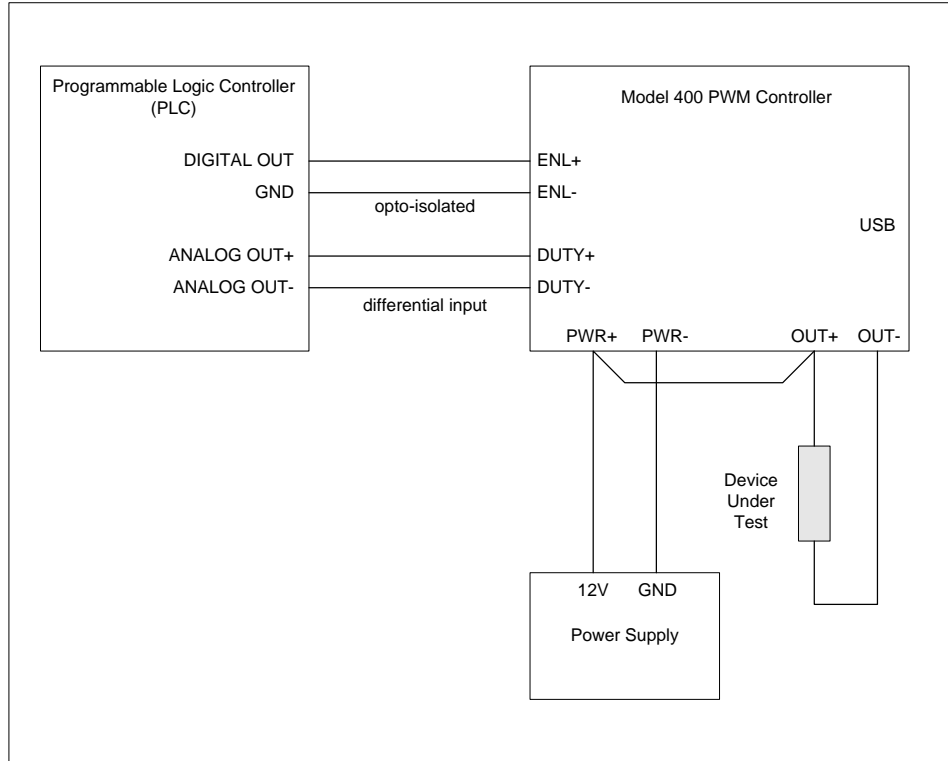
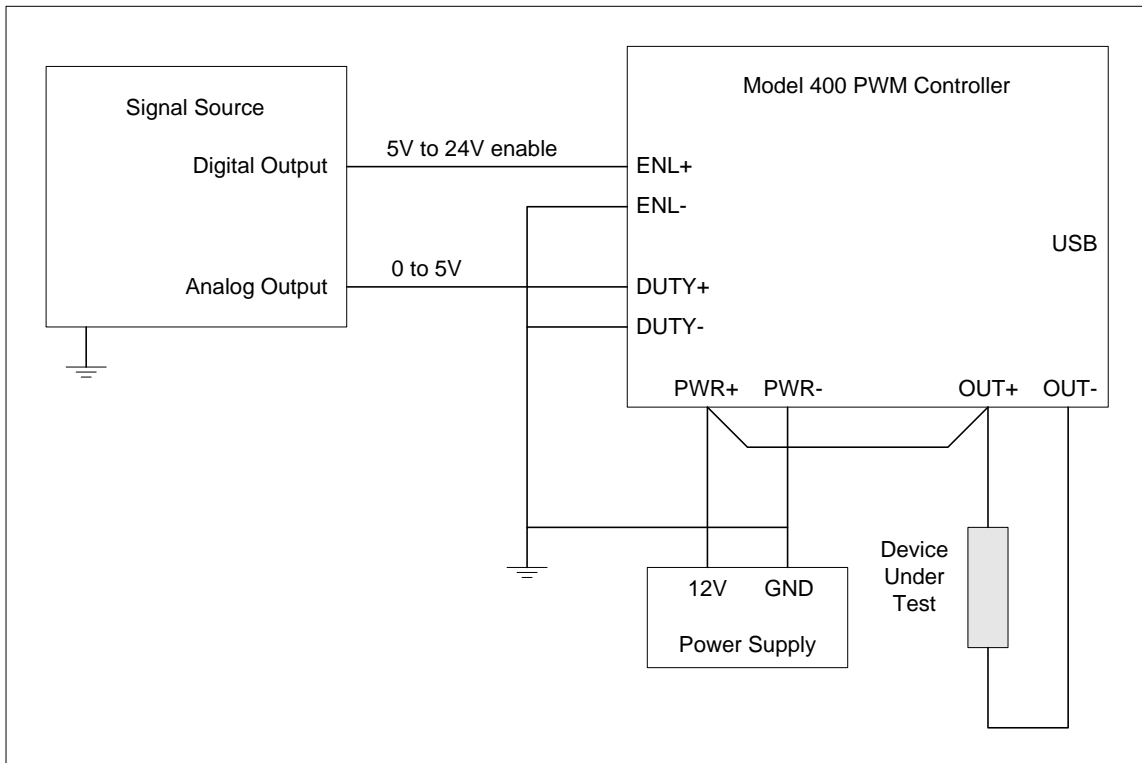

Figure 3.1-2 Model 400 PWM Controller – typical installation.
Figure 3.2-4 PWM Controller - Common Ground Connection.
(1) PWR-, DUTY-, and ENL- are electrically isolated (not internally connected). The PWMC-400 may be connected in a common ground configuration, however, the application must connect these pins together to utilize the same reference (ground). See figure 3.1-2 for a typical installation, see figure 3.2-4 for an example of an installation using a common ground.
In the common ground configuration of figure 3.2-4, connections to the DUTY- (IN2-), ENL- (IN1-) and PWR- pins on the PWM Controller must be physically made to the same reference ground in the application for proper operation. The control system / signal source must also be referenced to the same ground / reference point.